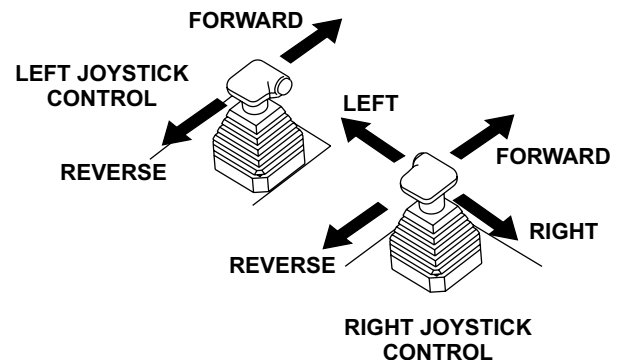

Figure 14. Left and Right Control Joysticks
Two joysticks (Figure 14) located to the left and right of the operator's seat provide directional control for the trowel. Table 4 illustrates the various directional positions of the joysticks and their effect on the ride-on trowel.
- Push both the left and right Control Joysticks forward. See Figure 14